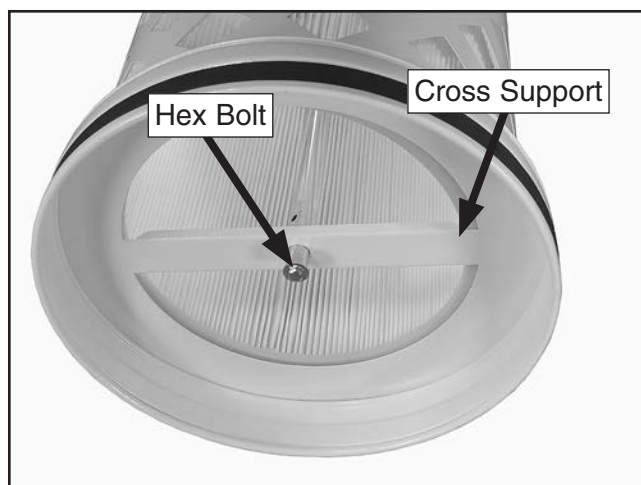

Figure 53. Filter assembly cross support.
3. Remove the hex bolt and flat washer from canister filter assembly cross support shown in **Figure 53**.